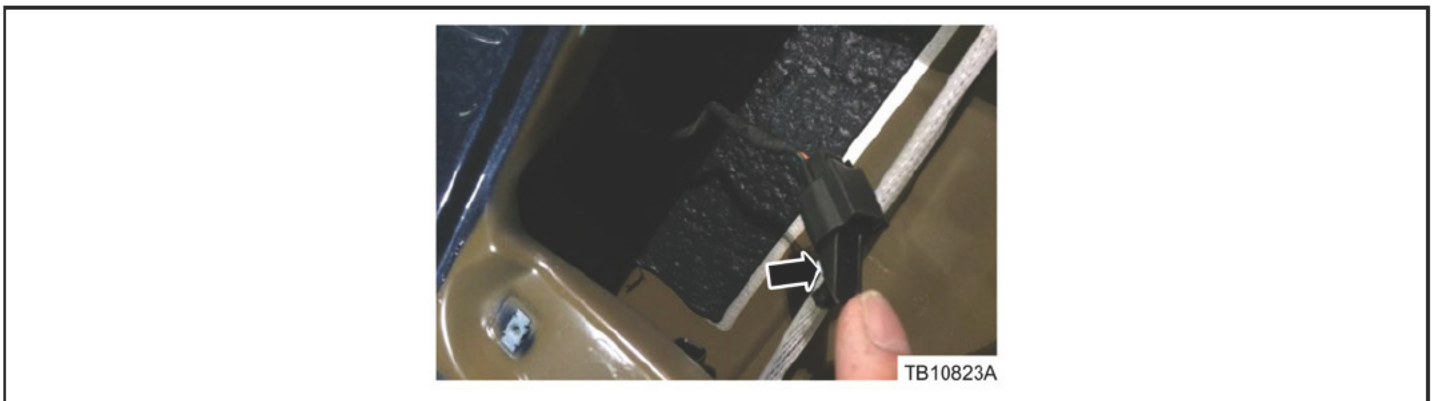

Figure 4 - Article 16-0030
4. Install the delete cap onto the tailgate ajar switch wiring harness connector. (Figure 4)